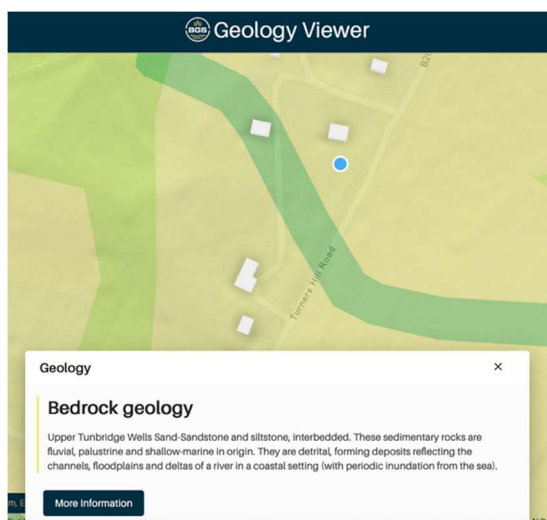
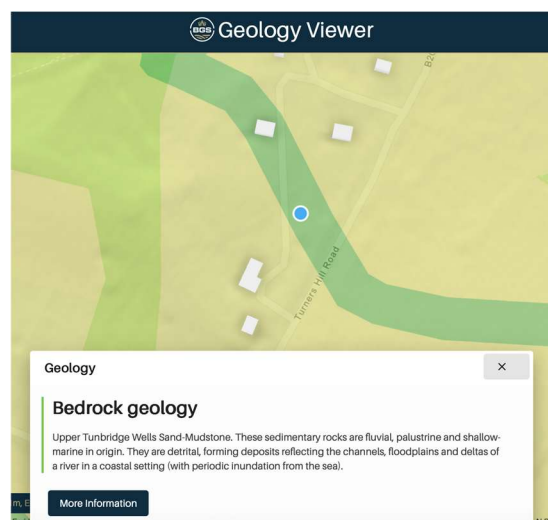

Figure 6 - Bedrock Geology
Figure 7 Bedrock Geology
3.01 British Geological Survey (BGS) mapping indicates that the site is underlain by Upper Tunbridge Wells Sand-Sandstone and siltstone, interbedded (figure 6), with no superficial deposit recorded at this location. There is also a strip partially covering the site which is underlain by Upper Tunbridge Wells Sand-Mudstone (figure 7).